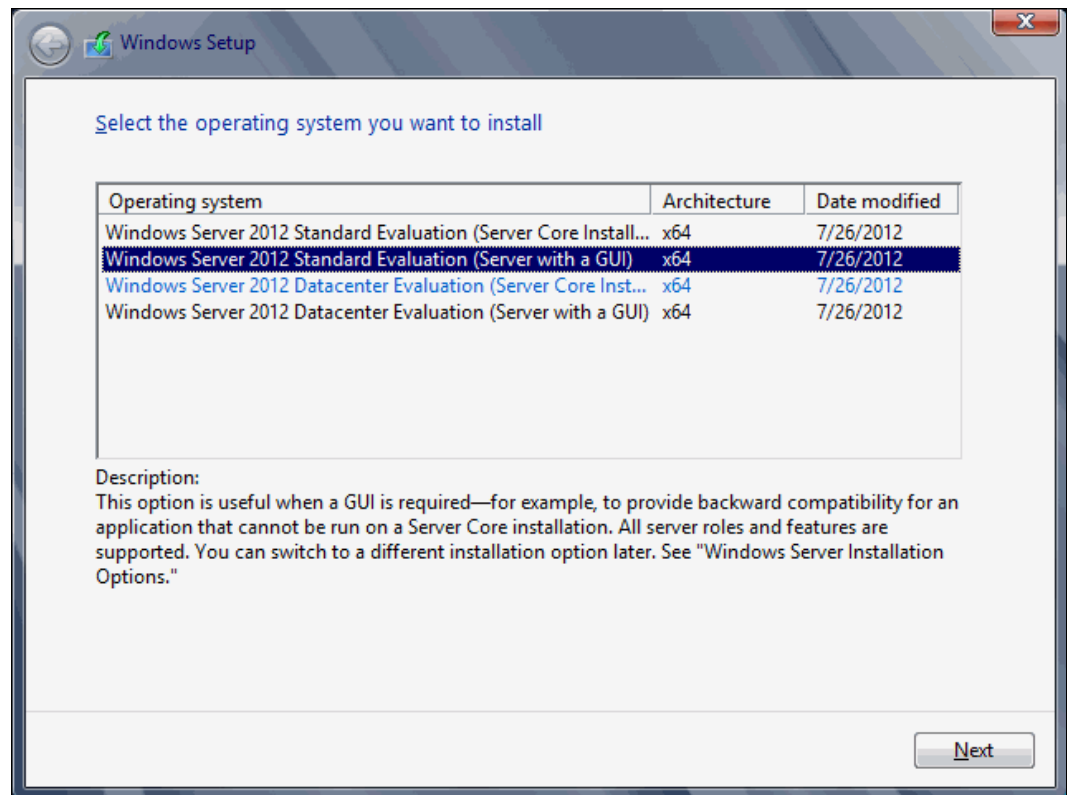

Figure 9-61 Selecting the operating system
4. Select the operating system that you want to install (Figure 9-61), and click **Next**.